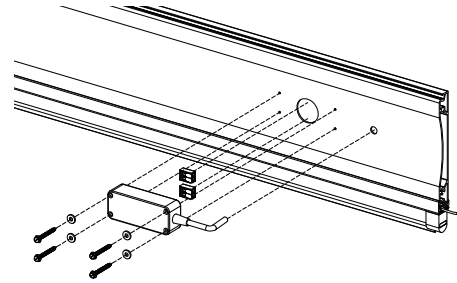

Figure 70: Remove Wireless Transmitter
- 1 Remove the wireless transmitter from the bottom bar assembly on the curtain (Figure 70). The back side of the transmitter has a button used in the pairing procedure.